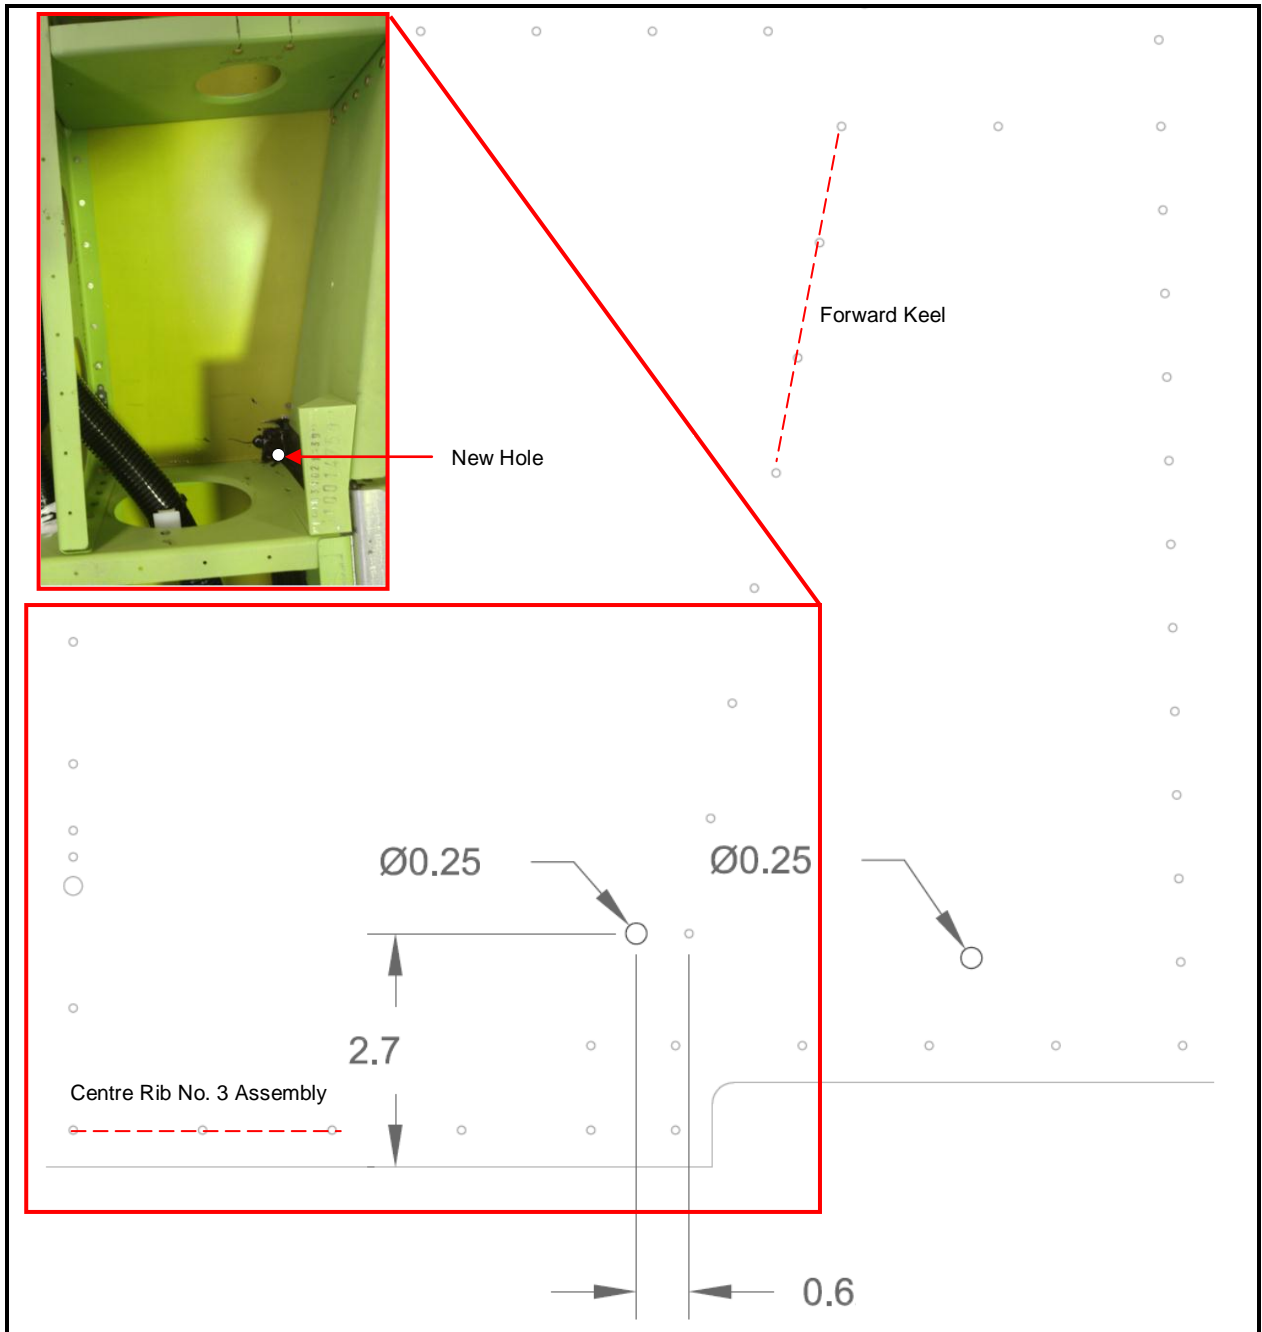

Figure 5: Hole 3 (Belly skin shown from above for clarity, DO NOT REMOVE FLOOR SKIN)
2. Figure 5 dimensions amended due to typographical error.
3. Five drain holes added see Figure 5, 6, 7, 8 and 9. Aircraft with cargo pod instructions part 2 added. Applicability changed to include aircraft up to GA8/GA8-TC 320-13-205.
10. Gain access through floor inspection panel forward left of the control panel and drill $\frac{1}{4}$ in. hole through bottom skin located between centre rib no. 2 (GA8-532023-115) and centre rib no. 3 assembly (GA8-532013-055), Figure 5.